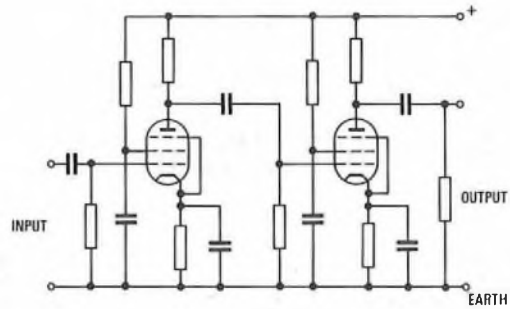

Fig. 1
Q. 9. (a) Fig. 1 shows the circuit diagram of a class-A audio-frequency amplifier. Redraw the circuit with additional components to provide overall voltage negative feedback over the 2 stages.